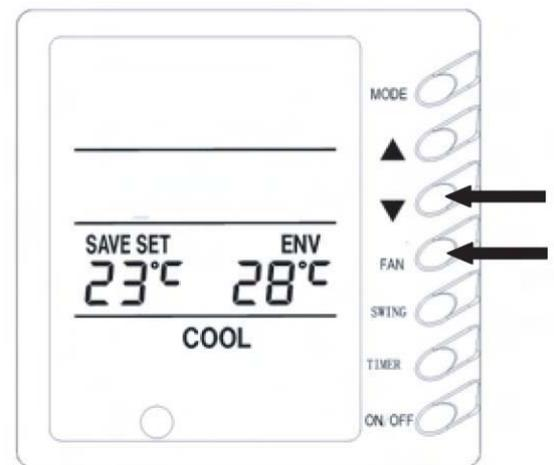

Fig 9
8) SAVE set up (Fig.9)
The above setting has been completed, the system will display ”SAVE” icon, no matter by buttons on displayer or the wireless remote control, the setting temperature should not exceed the former SAVE setup temperature range, for example as show in Fig. 9, we set up the cooling lower limit is 23°C in SAVE setting,the upper limit is 27°C , the user can set the cooling temperature between 23°C to 27°C by the wireless remote control and buttons on displayer.